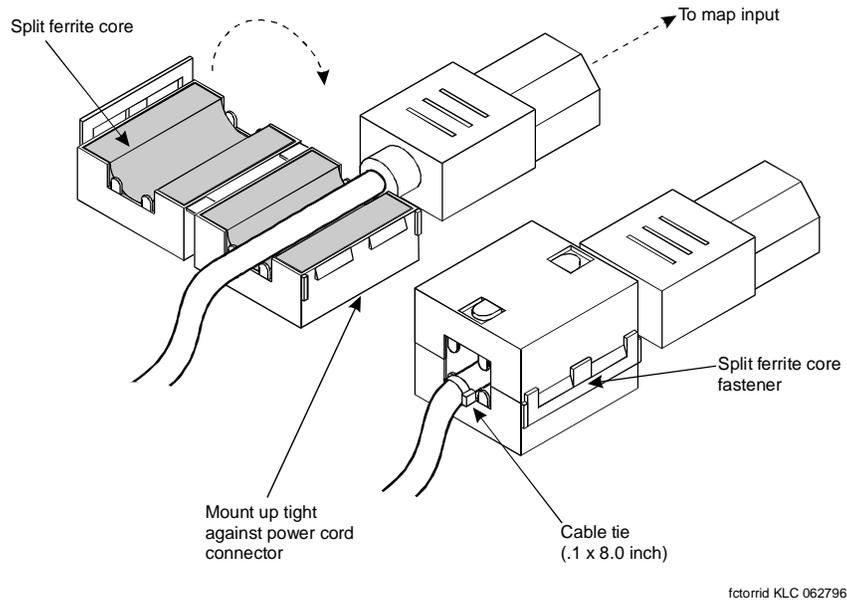
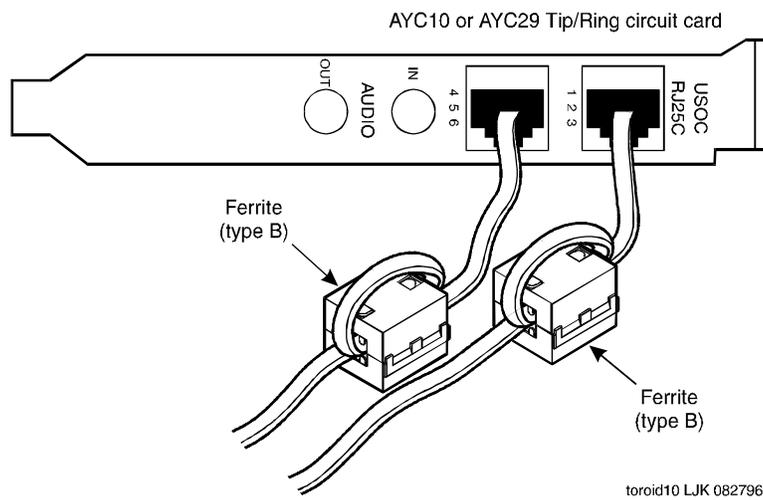

Figure 3-2. Example Ferrite (Type B) Installation
Figure 3-3. Example Ferrite (Type B) Installation
The following is the general ferrite installation procedure. Figure 3-2 and Figure 3-3 show different examples of ferrite installations.
5. Attach a large cable tie directly behind the ferrite to secure it. If the cable is installed looped through the ferrite, no cable tie is required (Figure 3-3).